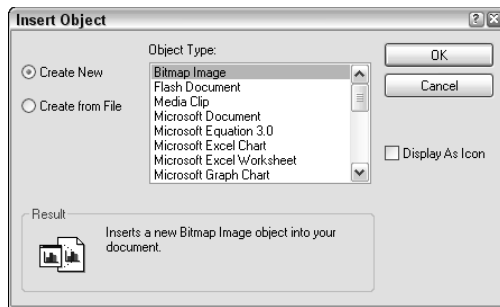

Figure 27-10: The Insert Object dialog box.
1. From your drawing, choose Insert ⇨ OLE Object to open the Insert Object dialog box, shown in Figure 27-10. This starts the INSERTOBJ command. (The entries listed in this dialog box depend on the applications you have installed on your computer.)